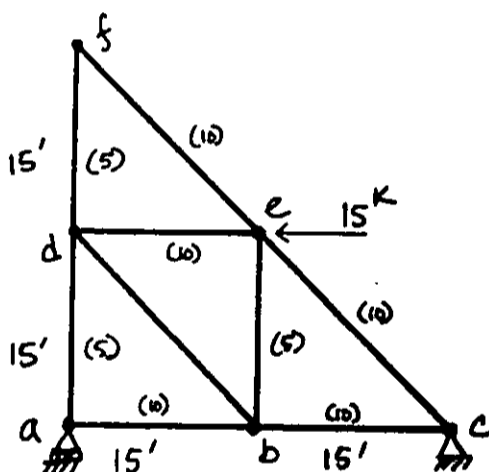

Fig. 12
- (b) A truss member ef shown in Fig. 12 is fabricated 1.0 inch longer than the specification. Using the method of virtual work, determine the horizontal deflection of joint f of this loaded truss. Each member's cross-sectional area is shown in the figure in bracket (unit of Area is in^2). Given that $E = 29000 \text{ ksi}$.